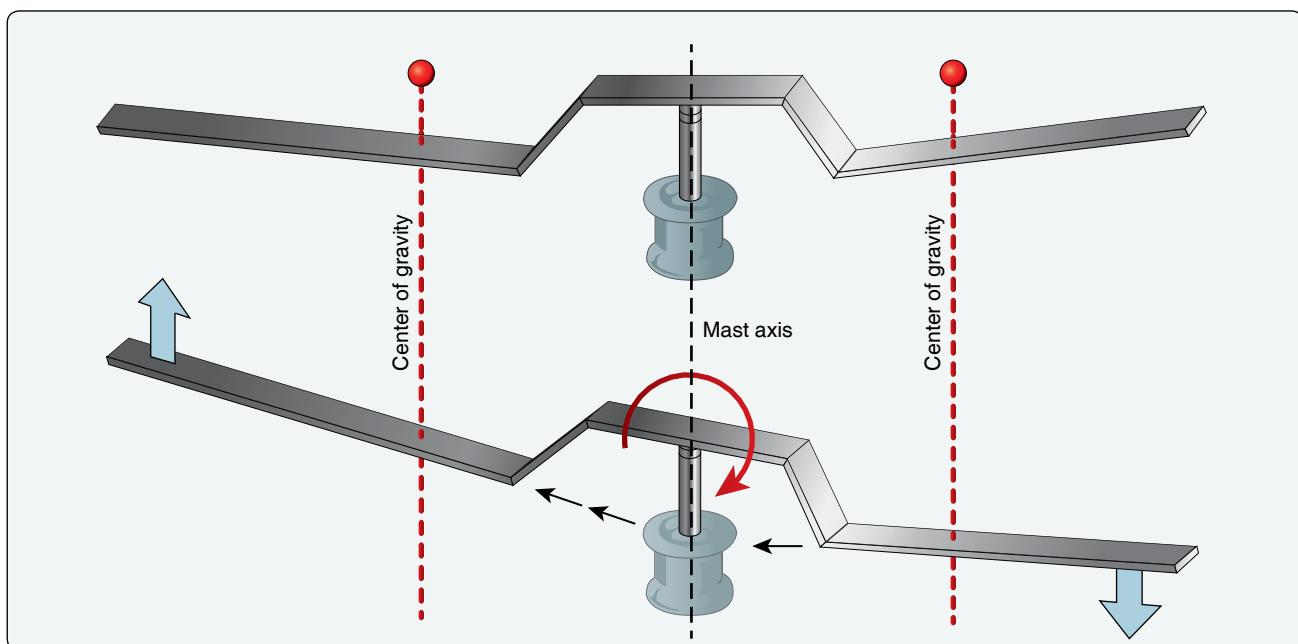

Figure 4-3. With an underslung rotor, the center of gravity (CG) remains in the same approximate location relative to the mast before and after rotor tilt.
If the semirigid rotor system is an underslung rotor, the center of gravity (CG) is below where it is attached to the mast. This underslung mounting is designed to align the blade's center of mass with a common flapping hinge so that both blades' centers of mass vary equally in distance from the center of rotation during flapping. The rotational speed of the system tends to change, but this is restrained by the inertia of the engine and flexibility of the drive system. Only a moderate amount of stiffening at the blade root is necessary to handle this restriction. Simply put, underslinging effectively eliminates geometric imbalance. [Figure 4-3]